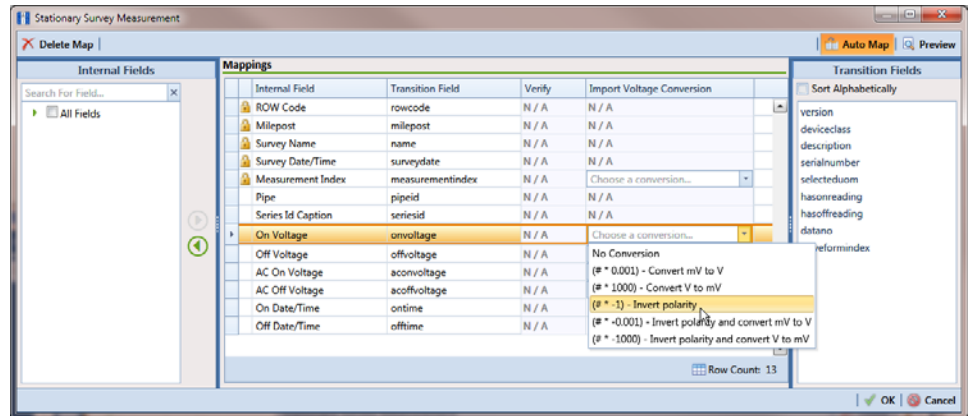

Figure 10-22. Stationary Survey Measurement
- b Select a survey measurement field in the grid. Then click the down arrow in the **Import Voltage Conversion** field and select one of the following filter options in the selection list (Figure 10-22, page 473).